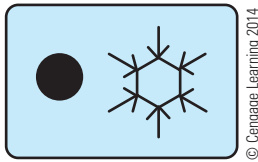

Figure 9-10 The air-conditioning switch allows the operator to turn air conditioning on or off.
3. Certain conditions cause the heater and air-conditioning system to go into a protection mode (**Figure 9-10**).